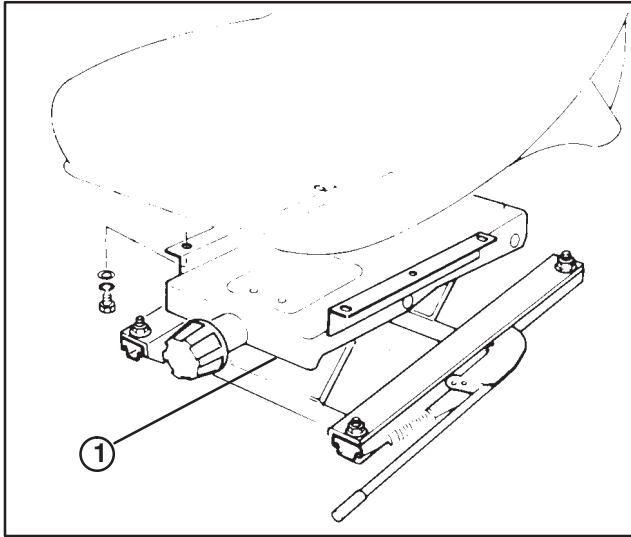

Figure 6
- Secure seat suspension to seat mounting plate with (4) flange locknuts (Fig. 6 & 7).
- Mount seat to seat suspension with (4) capscrews, lockwashers and flatwashers (Fig. 6 & 7).